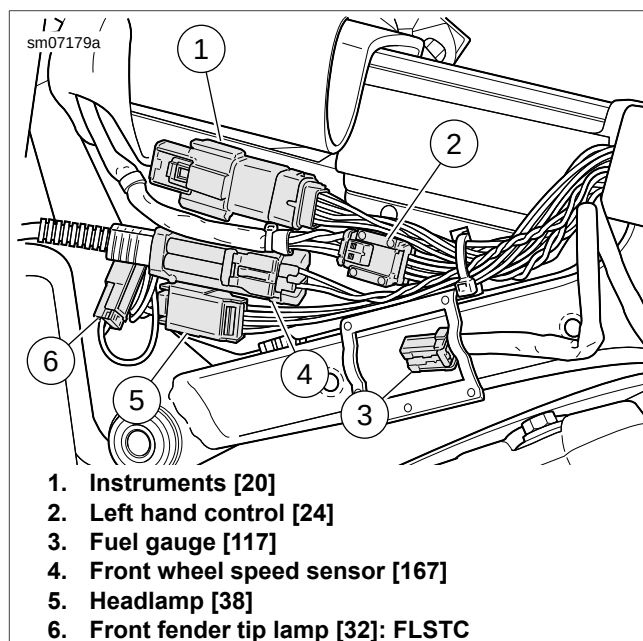
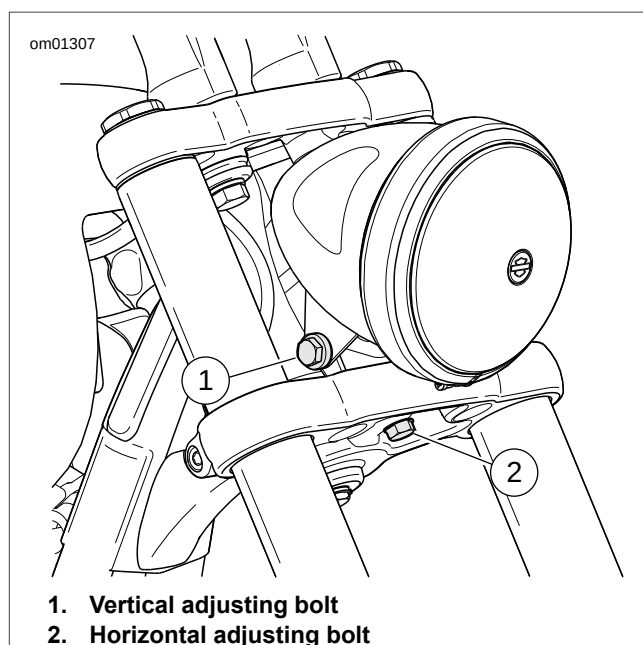

Figure 7-31. Under Fuel Tank Left Side
Figure 7-32. Headlamp Adjustment (typical)
2. See Figure 7-31. Disconnect headlamp connector (5).
3. If equipped with fender tip lamp, disconnect front fender tip lamp connector (6).
5. See Figure 7-32. Remove horizontal adjusting bolt (2) and headlamp assembly.
1. See Figure 7-32. Install headlamp assembly with horizontal adjusting bolt (2).
3. See Figure 7-31. If equipped with fender tip lamp, connect front fender tip lamp connector (6).
4. Connect headlamp connector (5).